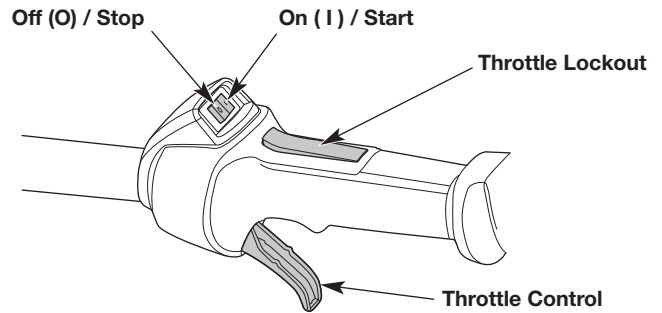
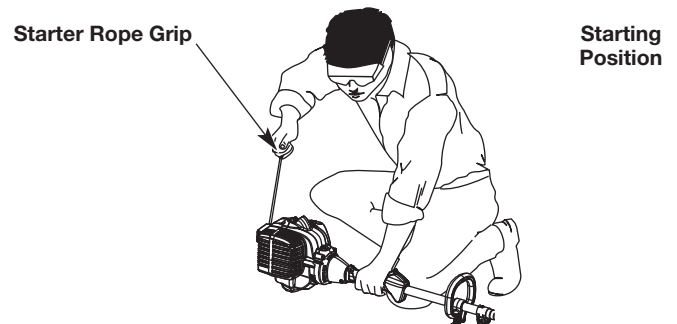

Fig. 8
Fig. 11
WARNING: Avoid accidentally starting the unit. To avoid serious injury, the operator and the unit must be in a stable position when pulling the starter rope (Fig. 11).
NOTE: There is no need to turn the unit on. The On/Off switch is in the ON (I) position at all times (Fig. 8).
4. Crouch in the starting position (Fig. 11).
5. **DO NOT** squeeze the throttle control (Fig. 8). Pull the starter rope with a controlled and steady motion until the unit starts (Fig. 11).
7. Press the throttle lockout and squeeze the throttle control (Fig. 8). Continue warming the engine for an additional 30 to 60 seconds. The unit may be used during this time.
2. Press and hold the On/Off switch in the OFF (O) position until the engine comes to a complete stop (Fig. 8).
6. **DO NOT** squeeze the throttle control (Fig. 8). Run the electric start accessory in intervals no longer than 2 seconds each until the unit starts.
9. Press the throttle lockout and squeeze the throttle control (Fig. 8). Continue warming the engine for an additional 30 to 60 seconds. The unit may be used during this time.